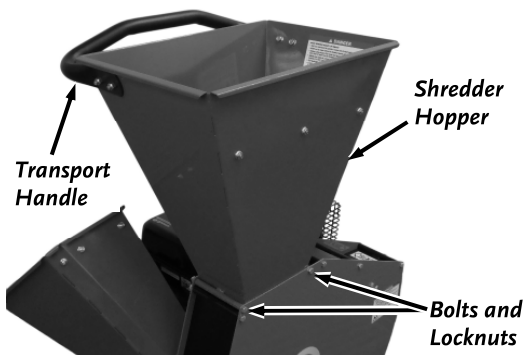

Figure 18
1. Remove the two Bolts and Locknuts using two 1/2" Wrenches. Remove The Shredder Hopper from the machine (**Figure 18**).